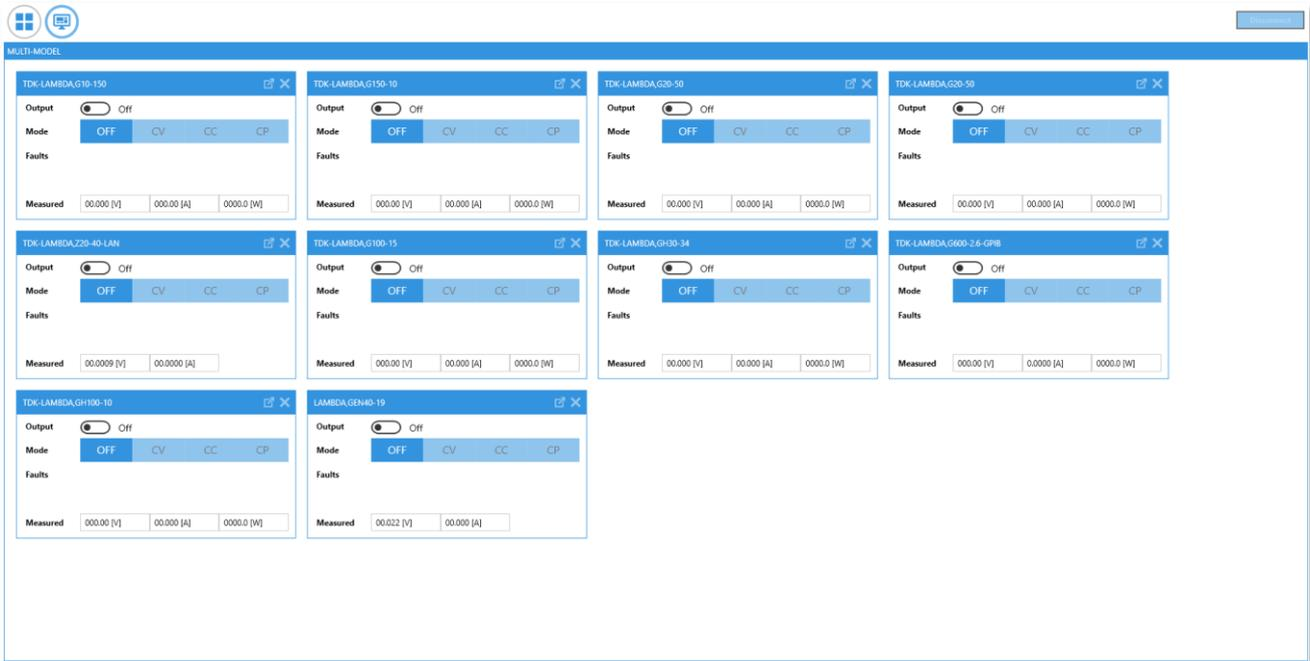

Figure 72
2. Click the *START MULTI-MODEL* button, GUI will switch to the Multi-Model tab. All ticked supplies will be displayed (refer to Figure 72). The number of ticked devices will be shown next to the *START MULTI-MODEL* button.